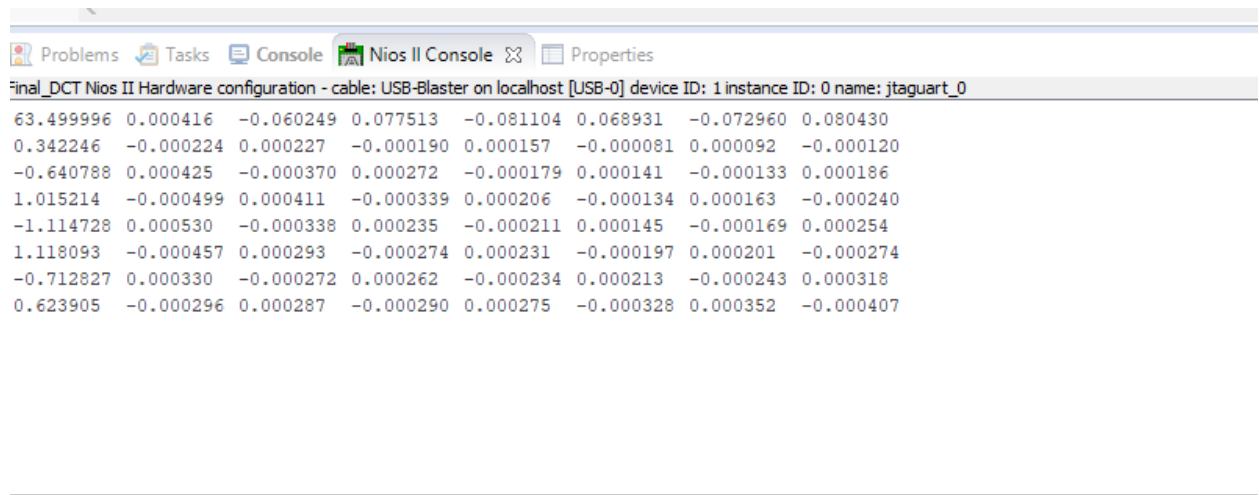

Figure 3-9 The Values after DCT and Quantization
- 3.) Now that we have recompiled the program, we will reopen the Nios software builder where we had just updated our program. We will now run that program and we should see a 8x8 matrix with the values after the DCT and Quantization as shown in Figure 3-9.
You can use this program and incorporate it into multiple different types of projects. The next step after this will be doing full JPEG compression after sending the values that we had gotten in Figure 3-9 back to the FPGA.